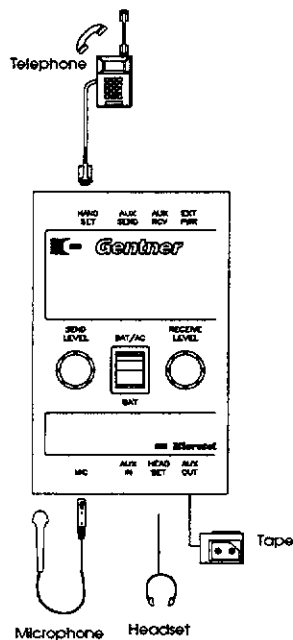

Figure 7
1. Set up your Microtel as described in “General Use” (page 4) and as shown in Figure 7.